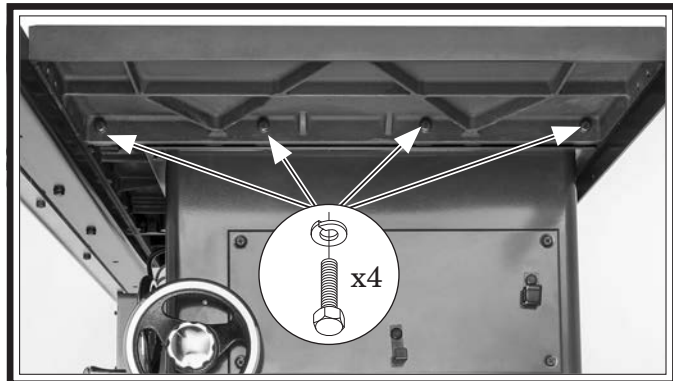

Figure 18. Extension wing mounting locations.
- While an assistant holds wing in place, attach extension wing to right side of main table with (4) M8-1.25 x 25 hex bolts and (4) 8mm lock washers (see **Figure 18**).